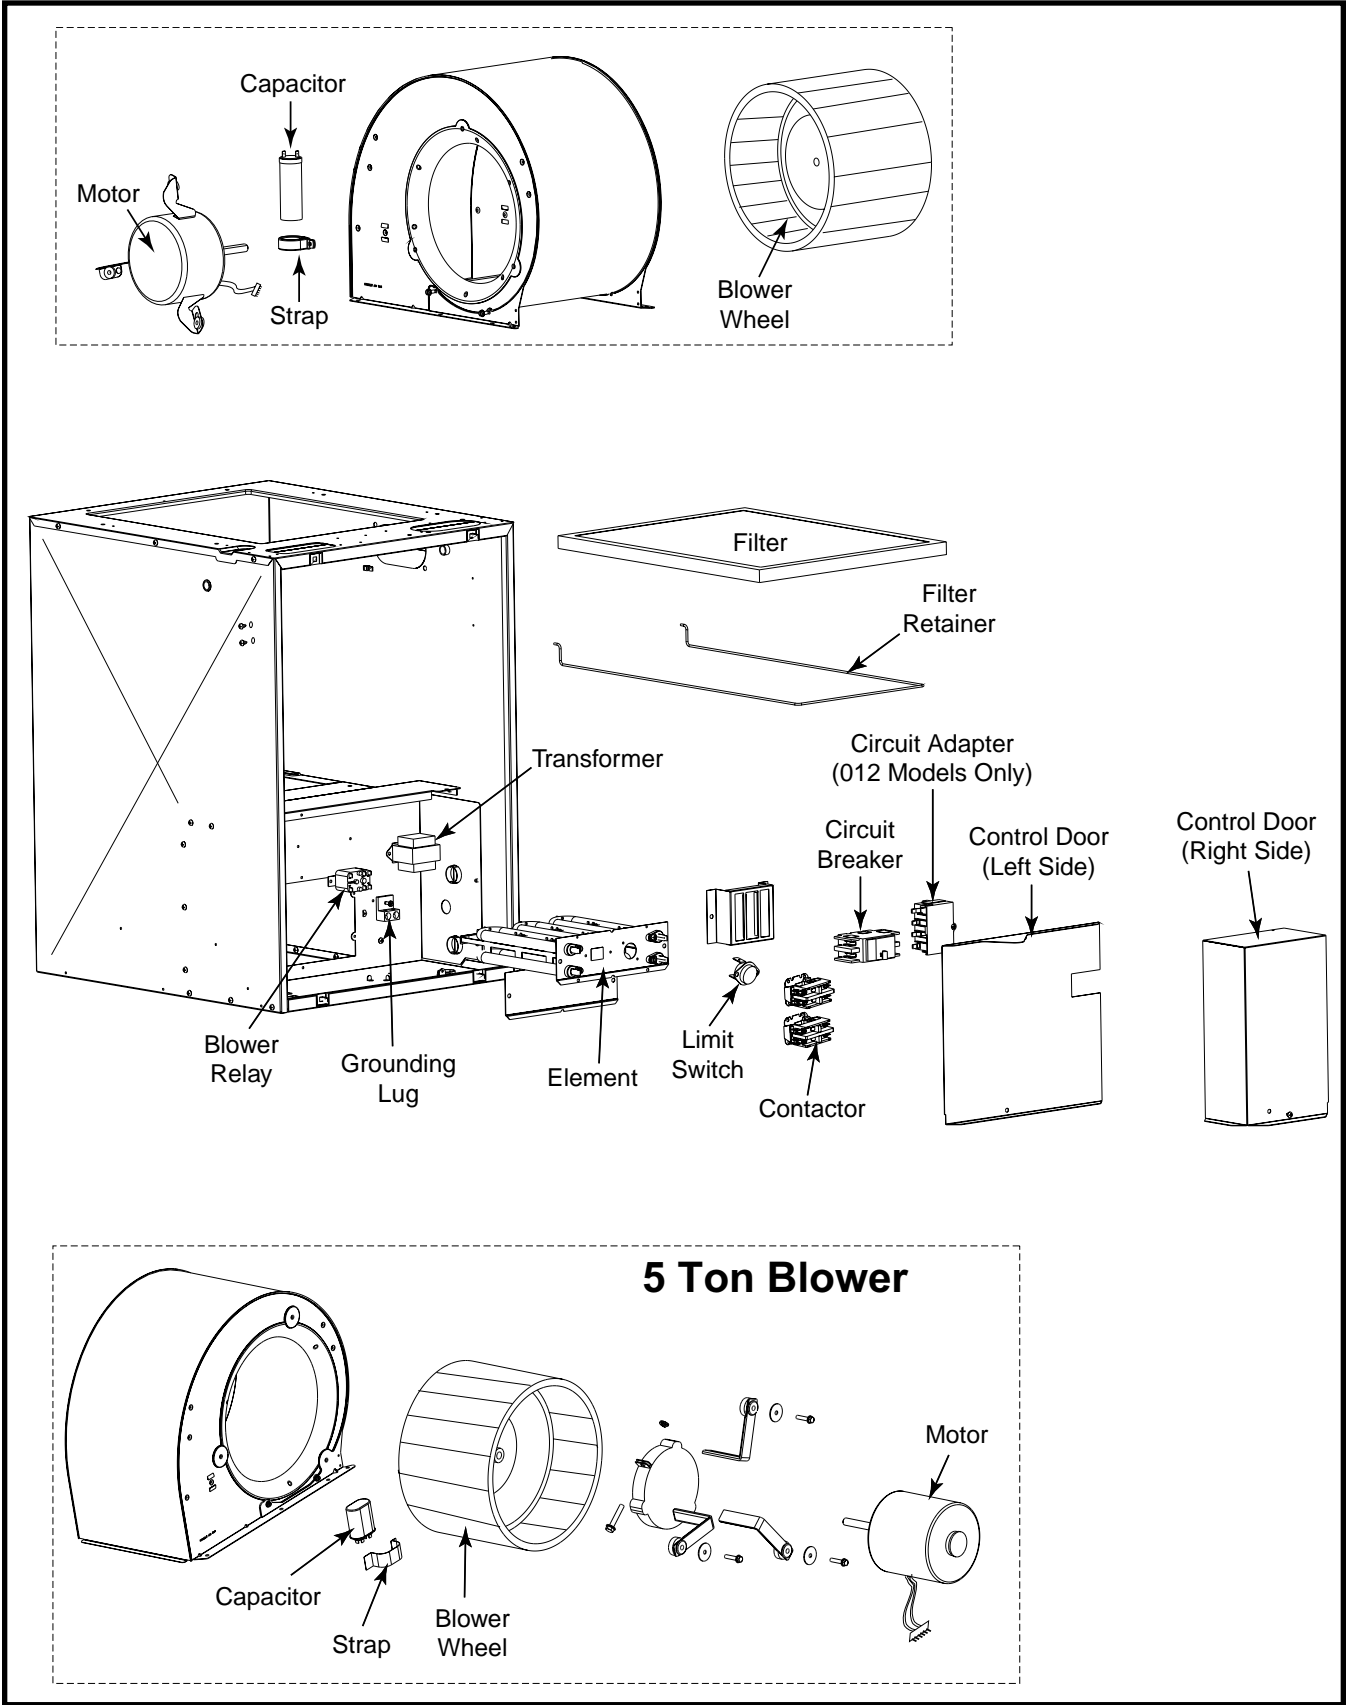

Figure 20. E3 Furnace Components
6. Connect service ground wire(s) to grounding lug(s) provided. One ground is required for each supply circuit used. See Figure 20 (page 17).